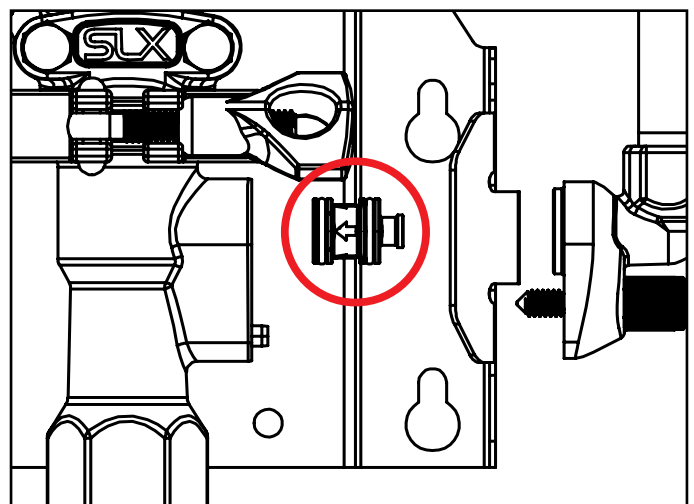

Fig. 10.3: SLX Check Valve at air inlet (correct orientation)
5. The check valve will be seated either inside of the elbow or the body. Grab it and pull to remove. [Fig 10.3]